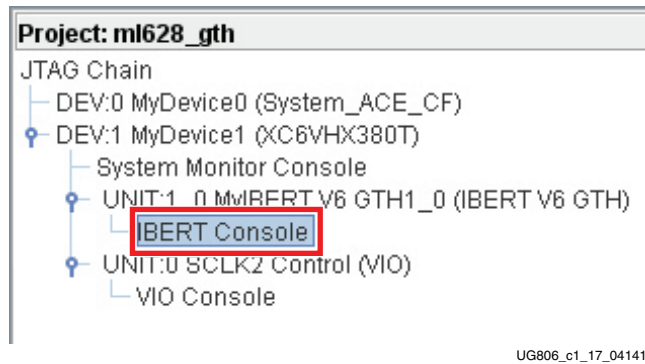

Figure 1-17: Project Panel - IBERT Console (GTH)
- In the project panel, double-click **IBERT Console** (Figure 1-17).